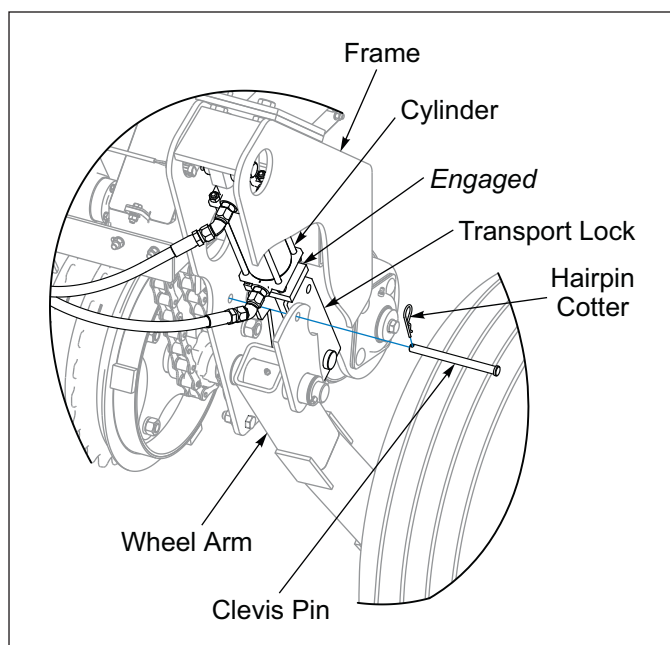

Figure 2-18: Transport Lock Engaged
6. Raise the Seeder and install Transport Locks. **See Figure 2-18.**